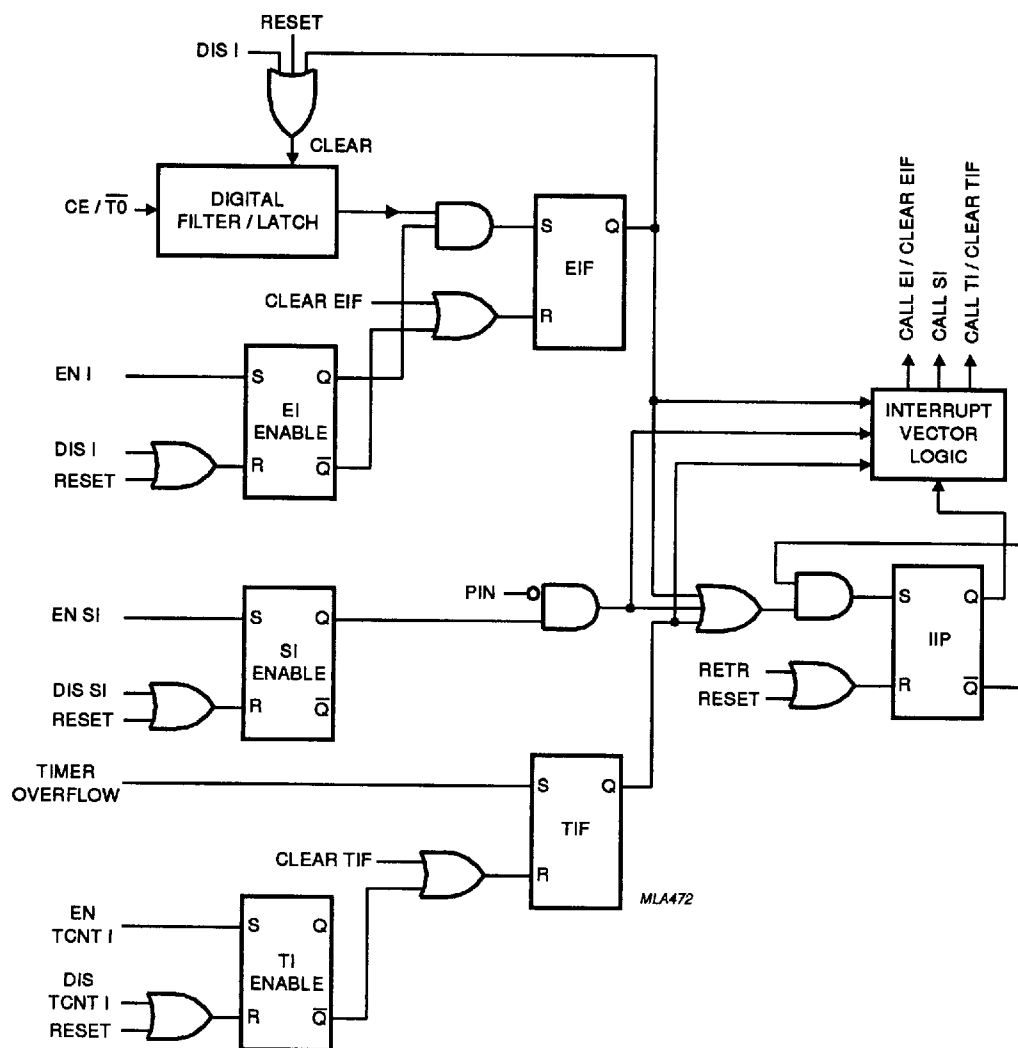

Fig.7 Simplified interrupt logic schematic (the R input overrules the S input for all flags).
An interrupt request is only sensed if the corresponding enable flag is set (see Fig.7). When the request is honoured, the contents of the Program Counter and bits 4, 6 and 7 of the Program Status Word are saved on the Program Counter stack. The Program Counter is loaded with the appropriate interrupt vector, thereby indicating the beginning of the interrupt routine. Since the Accumulator is not automatically saved, it must be saved and restored by user software. The interrupt routine must be terminated by the RETR (return and restore) instruction. At least one instruction of the main program will then be executed before another interrupt routine is entered.
- Subroutines and nested subroutines called from the interrupt routine must all end with RET since RETR clears the Interrupt In Progress flag (IIP), as a side-effect (see Figs 7 and 8). Further pending interrupts would then interfere with the interrupt routine in progress.
A LOW-to-HIGH transition on the $\overline{\text{CE/T0}}$ pin is latched in the digital filter/latch if the HIGH state exceeds 7 clock periods after a LOW state of more than 4 clock periods. If the external interrupt is enabled the External Interrupt Flag (EIF) is also asserted, thus constituting a valid external interrupt request. As soon as the IIP is clear, indicating that no interrupt routine is in progress, the external interrupt is invoked by a forced CALL to location 3. The EIF is simultaneously cleared (see Figs 7 and 8). The interrupt routine may acknowledge the interrupt via port lines. Execution of a DIS I (disable external interrupt) instruction cancels a stored interrupt request by clearing both the digital filter/latch and the EIF.
If the timer/event counter interrupt is enabled, a timer/event counter 1 overflow sets the Timer Interrupt Flag (TIF). As soon as IIP is clear, meaning that no interrupt routine is in progress, the timer/event counter interrupt routine is invoked by a forced CALL to program memory location 7. The TIF is simultaneously cleared (see Figs 7 and 8). Execution of a DIS TCNTI (disable timer/event counter interrupt) instruction cancels a stored interrupt request by clearing TIF.